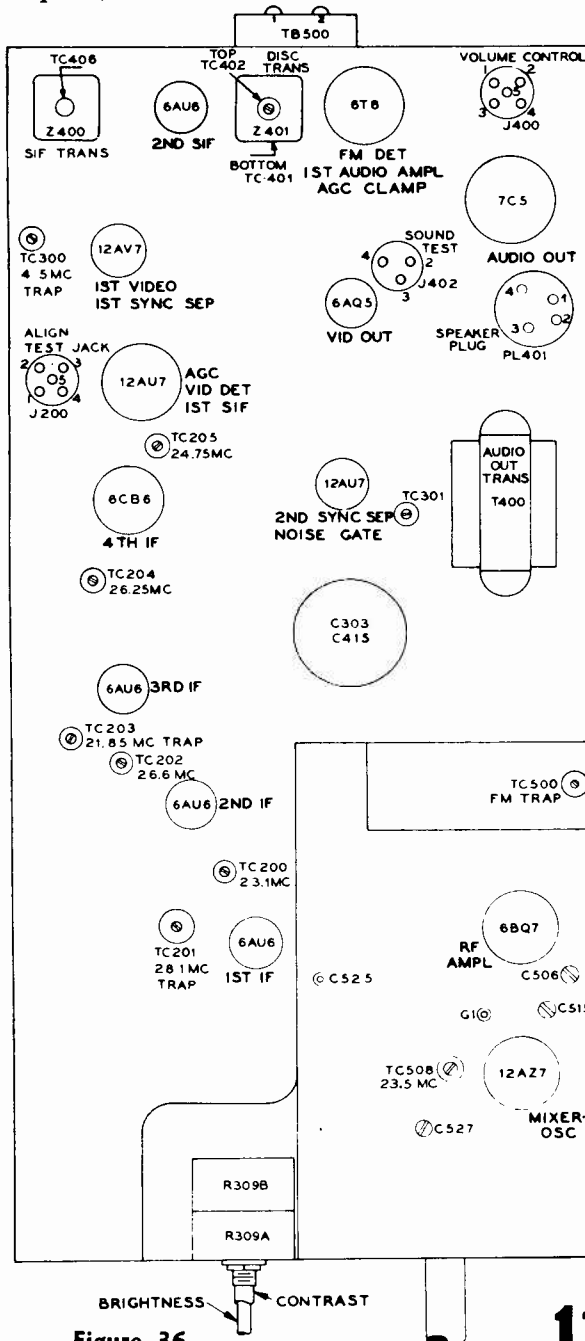

Figure 36.
8. Adjust C506 and C515 (see figure 36) to obtain a response curve which is the mirror image (tilt in the opposite direction) of the original. This is the overcompensation mentioned in step 7.
1. Preset TC201 and TC203 fully counterclockwise. See figure 36. Preset TC200 and TC202 to the center of their ranges.
5. Tune TC205, TC204, TC202, TC200, and TC507 for maximum output at the frequencies indicated in figure 36. Use 3 volts of bias, and attenuate the generator to keep the output below 2 volts, peak to peak.